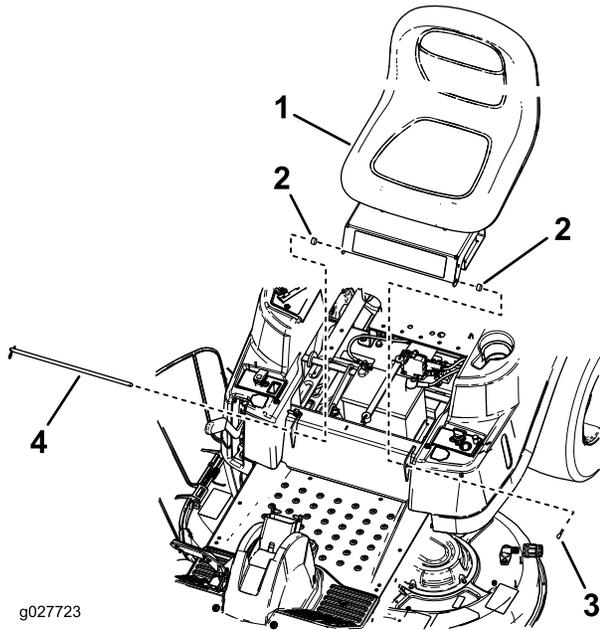

Figure 2
- Remove the existing seat and seat-pan from the machine (Figure 2).
- Install the new seat seat-pan assembly to the frame with the seat rod, 2 hairpin cotter pins, and 2 spacers (certain models only) (Figure 2).